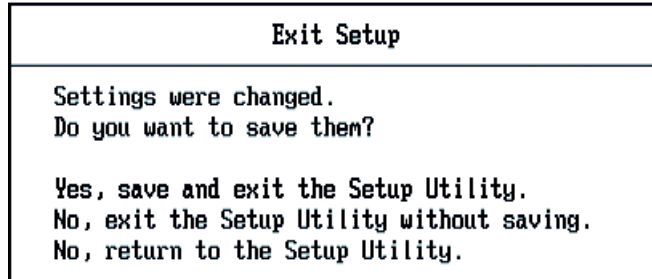

Figure 20-12 Exit BIOS configuration
5. Press Esc to exit the BIOS configuration utility and save the changes, as shown in Figure 20-12 on page 455.